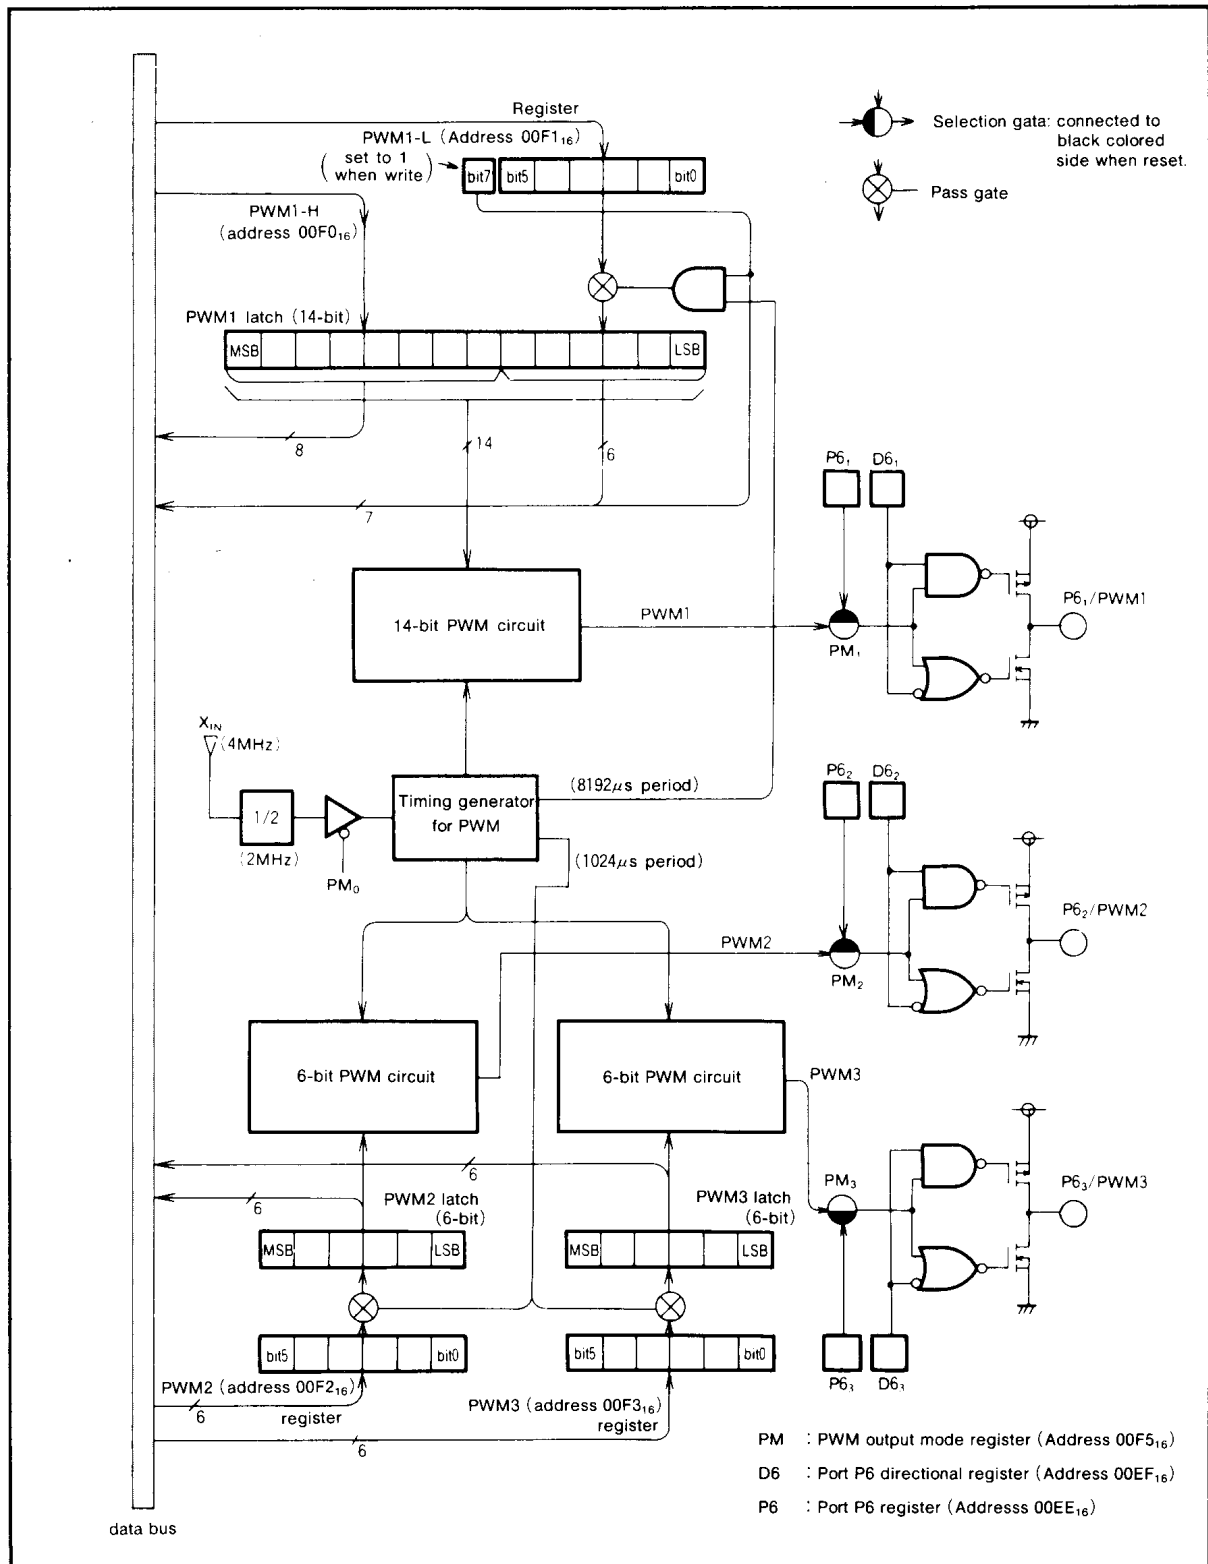

Fig.10 Block diagram of the PWM circuit (M50958-XXXSP and M50959-XXXSP)
(4) Operation of the 6-bit PWMs
The timing diagram of the two 6-bit PWMs (PWM2 and PWM3) is shown in Figure 10. One period (T) is composed of 64 (2⁶) segments.